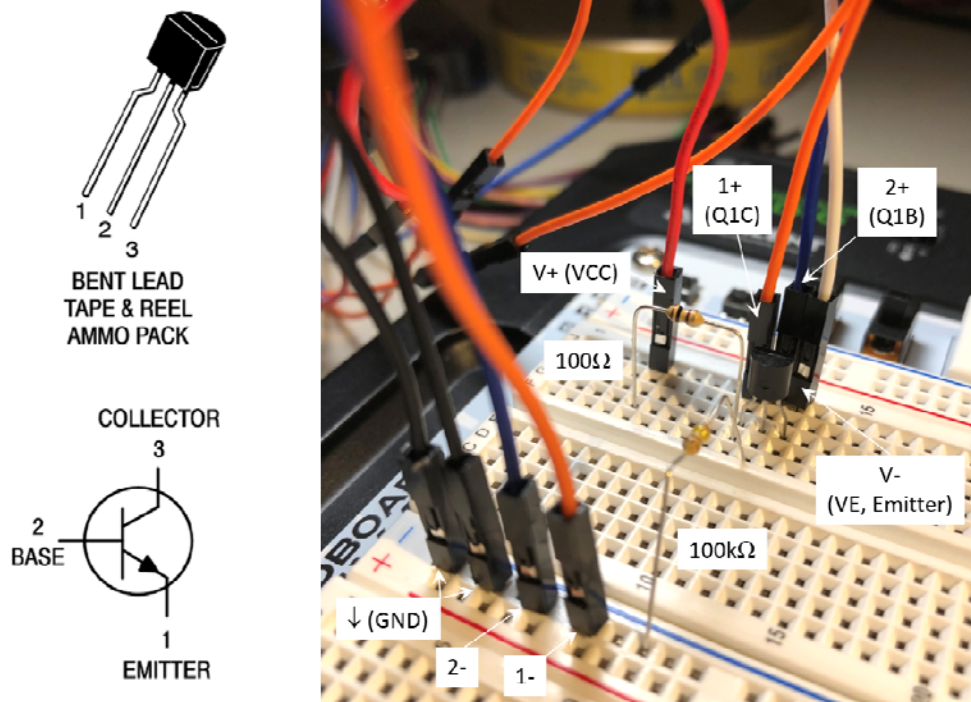

Fig. 2 Experimental setup for the DC Characterization of an NPN-BJT 2N3904
1.5 Prepare the circuit as shown in Fig. 2, using the same settings for V_E and V_{CC} in steps 1.2 to 1.4, measure the collector voltage V_C and the base voltage V_B , and record the measured data in the columns C and D of the “Measurement” sheet in the excel file “Lab1 Part1 – DC Parameters of NPN-BJT 2N3904”.